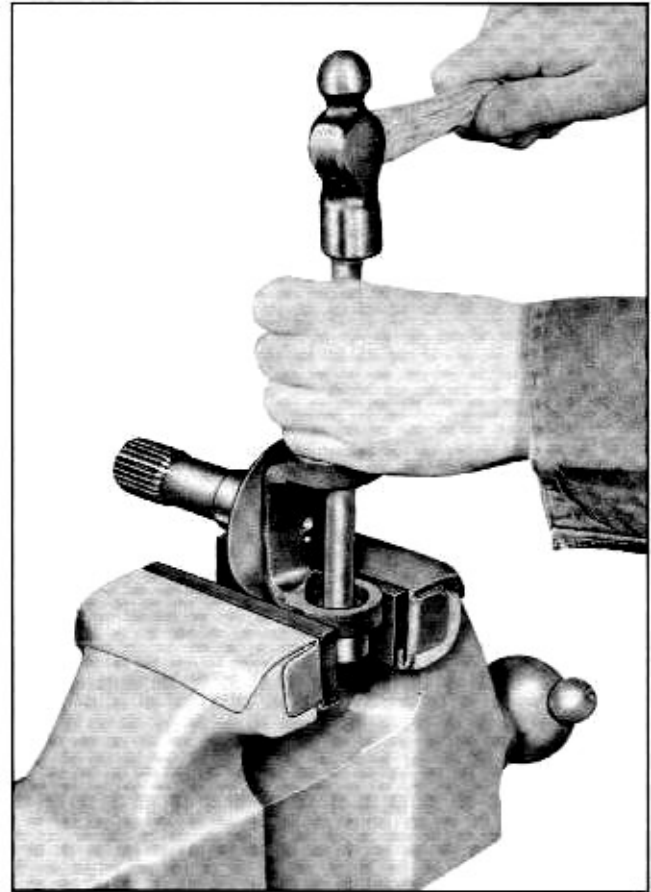

Fig. 4-9 Removing Bearing
9. Remove remaining bearing from yoke with drift (Fig. 4-9).